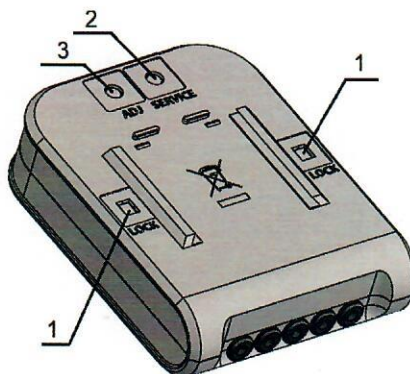

Fig.5. Sealing the calculator of the meter
The newly manufactured complete meter calculator shall not be subject to additional sealing. Access to the calculator cover release latch (Fig. 5, pos. 1), the parameter change and test mode activation contacts (Fig. 5, pos. 2) and adjustment data activation contacts (Fig. 5, pos. 3) is protected by easy break-out screens.
When the abovementioned casing screens are break-out (after opening the calculator casing, changing the meter parameters, adjusting the meter or activation the test mode), open slots are sealed with metrological seal-stickers (Fig. 5, pos. 1 and pos. 3) and with the protective seal-sticker of heat supplier (Fig 5, pos. 2).
Remove the screen „SERVICE“ on the back of the calculator or, if the screen has already broken down, a protective seal-sticker is removed (Fig. 5, pos. 2 of this appendix), or, for a combined device, opens the calculator box. By short-circuiting the contacts „SERVICE“, the SERVICE mode is activated, symbol „<->“ and sign „TEST“ are displayed on the LCD.